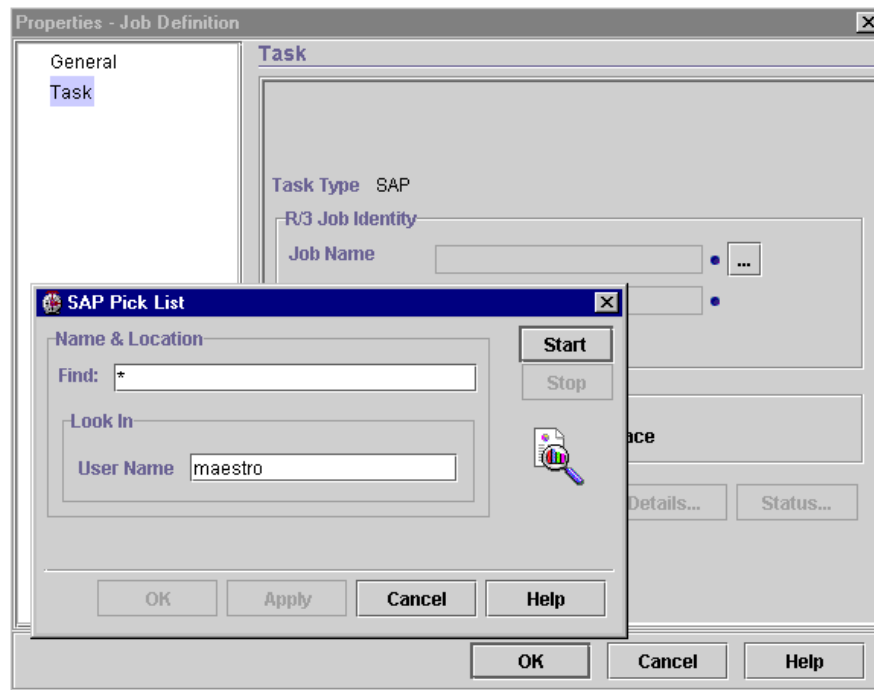

Figure 103. Job Definition Task, Select SAP Pick List
4. Click the **Task** tab. Next to the Job Name field, click the ellipse (...) button. This opens the SAP Pick List window as shown in Figure 103 on page 180.